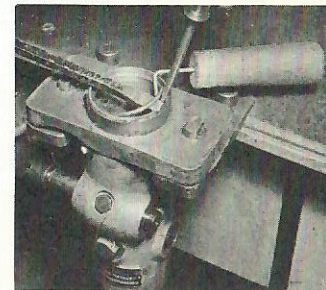

FIG. 62-1
3. With the aid of two screwdrivers, remove the split ring, Fig. 62-1.